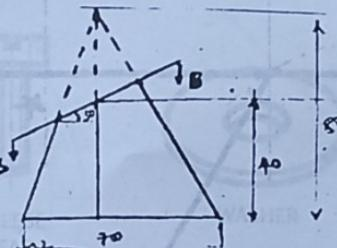

Figure 1
- [1] The front elevation of a truncated cone cuts along a plane B-B, shown in Figure1. Draw the development of the surface